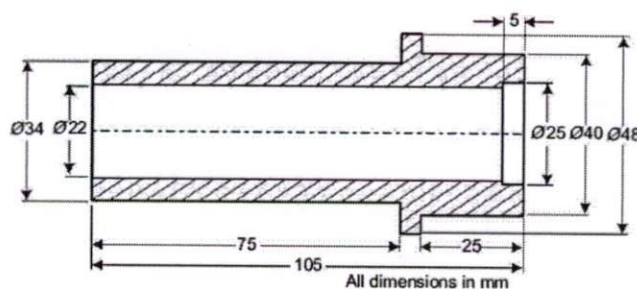

Figure 2
- 9 Explain the Optiz coding system generally used in group technology. Apply this coding system to develop the form code for rotational components for the component shown in figure 2. 10M C04 BL3